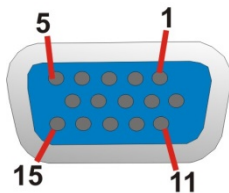

Figure 3-27: VGA Connector
- CN Pinouts:** See **Figure 3-27** and **Table 3-26**